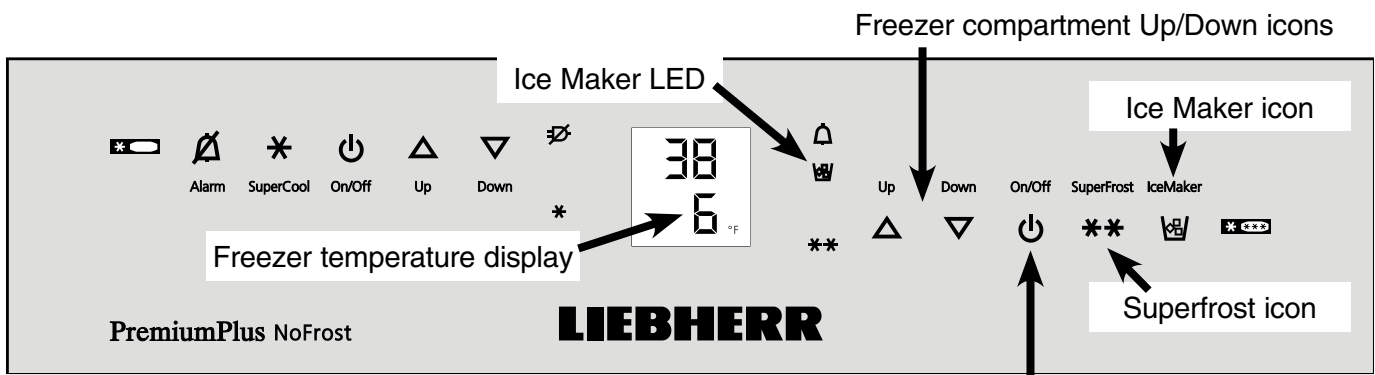

Figure 21
- Turn the Ice Maker on by touching the Ice Maker icon (**Figure 21**).
- Touch the **Ice Maker icon** so the **Ice Maker LED** comes on (**Figure 21**).